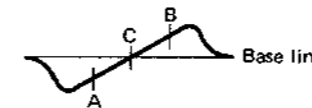

Fig. 2
2. Feed in a weak signal to TP103 from the genescope and confirm that the S-curve is obtained shown in Figure 2.